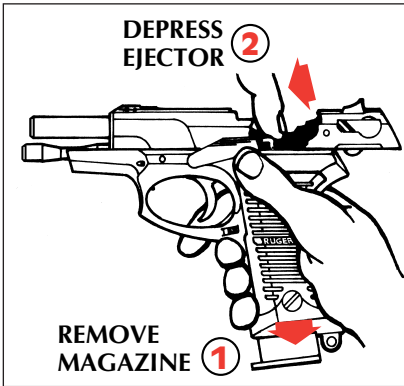

FIGURE 4
3. Keep upward pressure on slide stop to prevent forward movement of slide. Open slide is under strong spring tension and could injure fingers if allowed to slam shut. Insert finger through top of slide and push ejector downward and forward (see Figure 4, below) until it locks in its lower position. This will permit forward movement of slide. Further disassembly is impossible unless this is done.